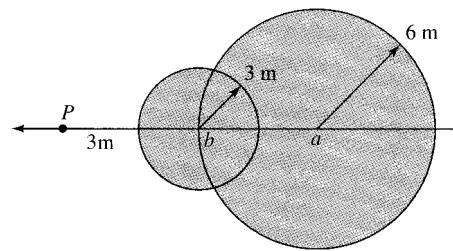

Fig. P9.120
- 9.120** The particle in Fig. P9.120 is moving in sea-level standard air. From the two disturbance spheres shown, estimate (a) the position of the particle at this instant; and (b) the temperature in  $^{\circ}\text{C}$  at the front stagnation point of the particle.